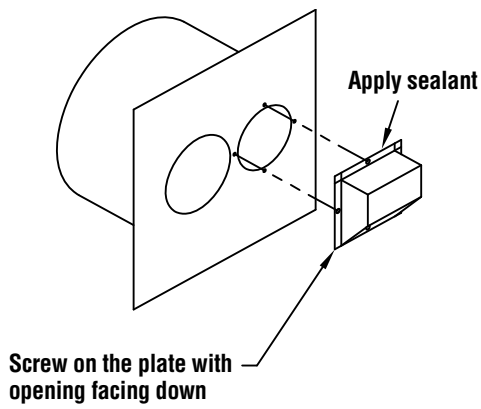

Figure 12
There are four possible positions of air intake. It can be positioned over, under, left or right of the exhaust pipe. The ideal position depends on your installation. However, you must always install the outside air intake cover with the opening facing down to prevent rain from entering. See **figures 12 and 13**.
2. Screw the air intake cover on the outside plate using the three screws provided. Make sure the opening is facing down. Seal the joint between the cover and the plate with silicone. See **figures 12 and 13**.